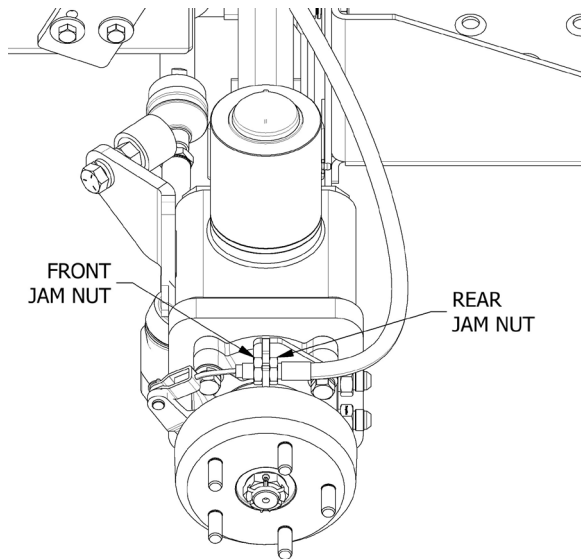

Figure 2.20 – Parking Brake Adjustment at Wheel
If sufficient tension cannot be obtained (See Figure 2.20):
3. Loosen the front jam nut (Figure 2.20) and adjust the rear nut to move the cable housing rearward. Make sure both brakes are adjusted equally.